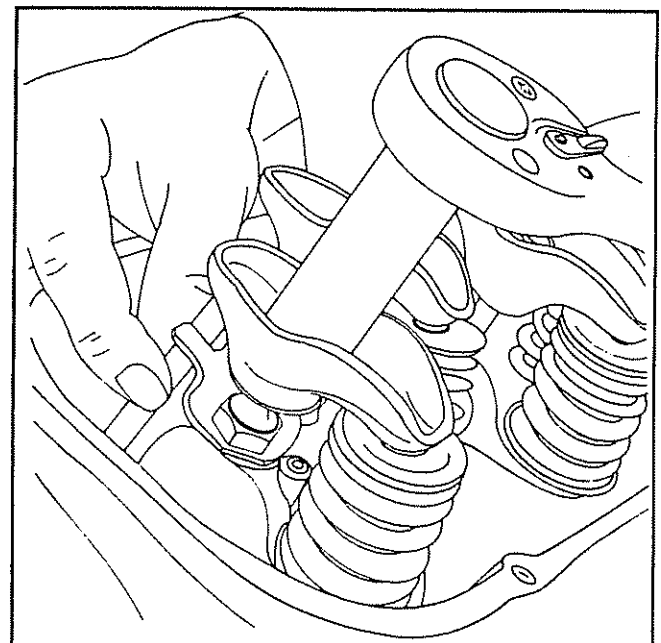

Fig. 8-120 Adjusting Rocker Arms With Engine Not Running
3. Back out adjusting nut until lash is felt at push rod, then turn (Figure 8-120) adjusting nut until all lash is removed. This can be determined by moving push rod up and down while turning adjusting nut until all play is removed.